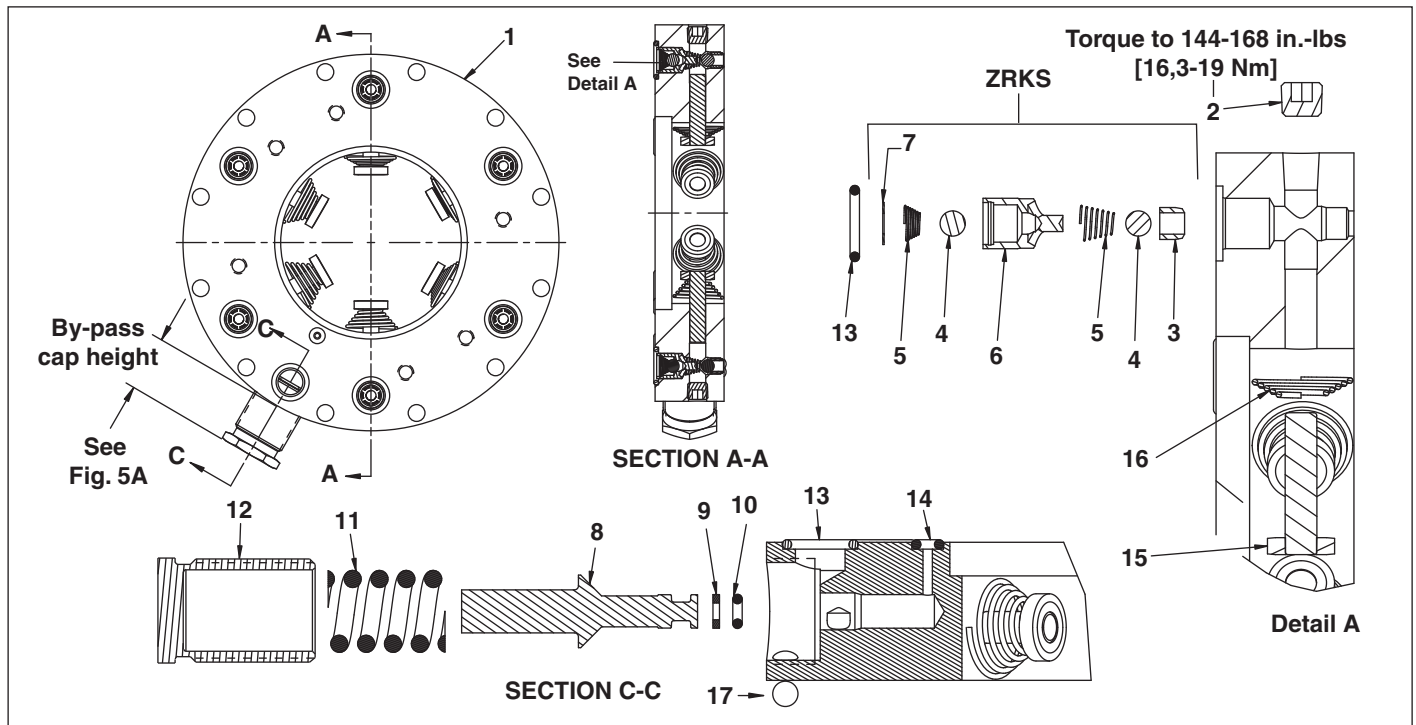

Figure 4, Piston Ring Assembly (6 Piston Shown)
Repair Parts List for Figure 4 (Note: part quantities will vary - quantities for 6 piston shown)
◆ Use bypass end cap DC9208020 (Figure 4, Item 12).
* Use bypass end cap DC8373020 (Figure 4, Item 12).
▲ Use bypass end cap DC8374020 (Figure 4, Item 12).